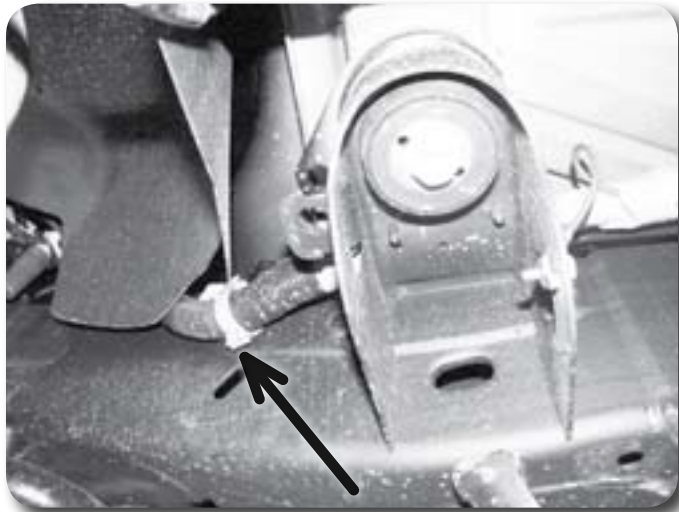

Figure 16
22. Disconnect the large wire harness that runs down the driver's side frame rail from the retaining clip at the rear portion of the front wheel well **Figure 16**.